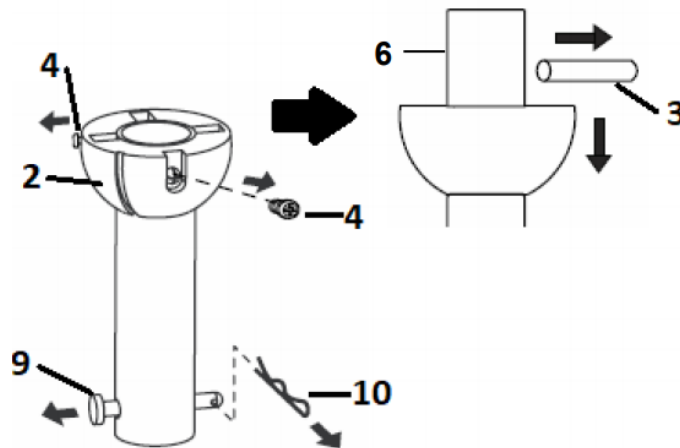

Fig. 4.1
1. Remove the ball joint (2) and dowel pin (3) by loosening the set screws (4) from the down rod (6).
Remove the hitch pin (9) by removing the lock clip (10) (Fig. 4.1).